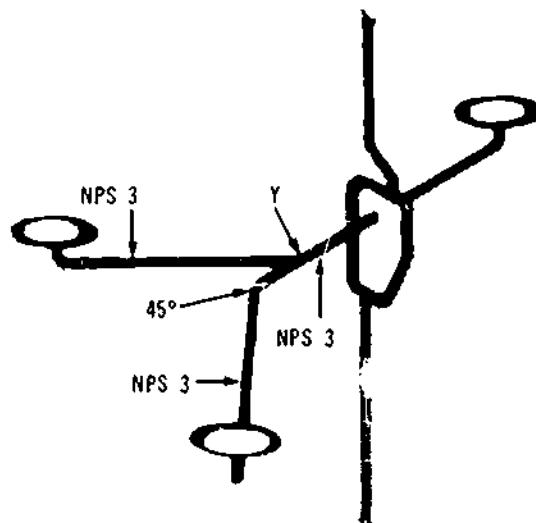

Figure 37-11. Soil Branches
29. If the objective is to connect two water closets into one soil inlet, this may done by selecting fittings to prevent cross-flow and two water closets may be connected to an NPS 3 soil branch, as shown in Figure 37-11. Should there be a third water closet, the soil branch must be increased in size.